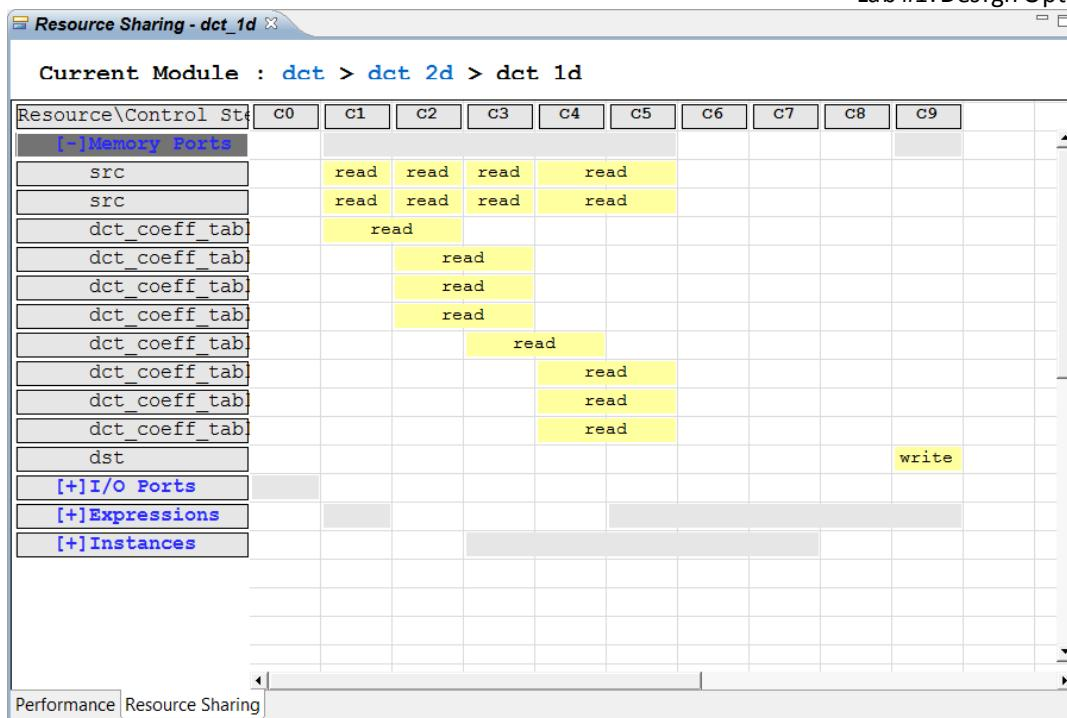

Figure 130 Resource Sharing of Memory Ports in dct_1d
15. Expand the Memory Ports to see the view in Figure 130.
The rows list the resources in the design. In Figure 130, the memory resources are expanded.
Figure 130 shows the memory accesses on BRAM src are being used to the maximum in every clock cycle. (At most a BRAM can be dual-port and both ports are being used). This is a good indication the design may be bandwidth limited by the memory resource. To determine if this really is the case, we can examine further.